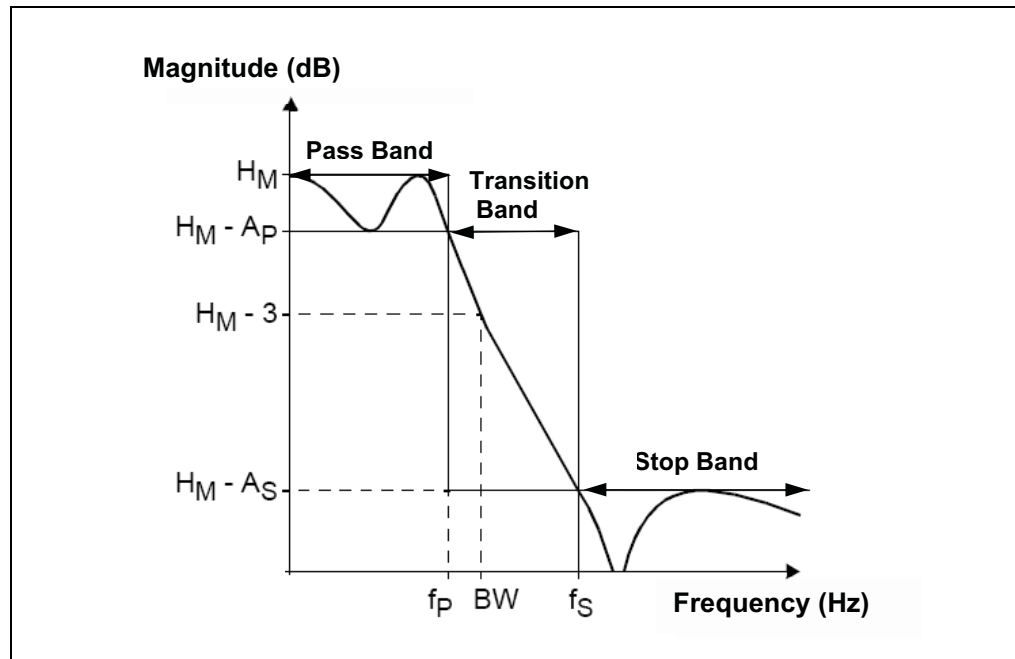
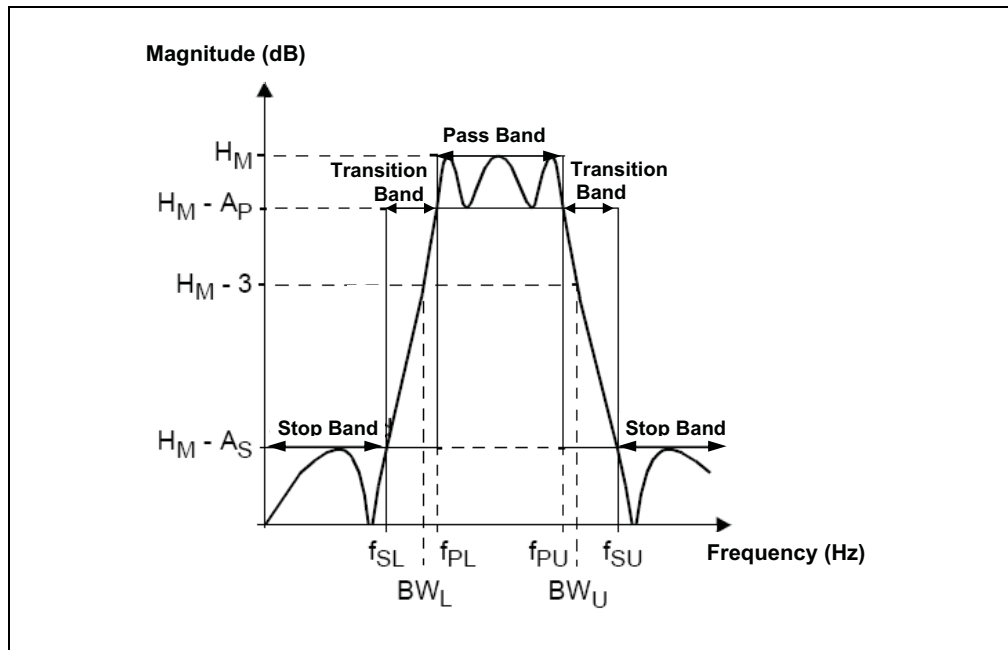

FIGURE 3-6: Filter Response and Parameter Definitions for Low-pass Selectivity.
FIGURE 3-8: Filter Response and Parameter Definitions for Band-pass Selectivity.
Figure 3-6 thru Figure 3-8 provide a simplified representation of the filter responses and specification parameters. For all selectivities, A_P and A_S represent the pass-band and stop-band attenuations. H_M represents the maximum transfer function magnitude. A detailed discussion is provided in **Appendix A. "Filter Magnitude Templates"**.
- For a Butterworth, Bessel and some Chebyshev approximations, the overall filter gain (G) is set as H_M as shown in Figure 3-6 through Figure 3-8. This setting is reflected in Figure 3-10 and Figure 3-11.
- For other Chebychev Approximation: Low-pass of even order, High-pass of even order and Band-pass of orders 4 and 8, the overall filter gain (G) is set as H_M - A_P as shown in Figure 3-6 through Figure 3-8. This setting is reflected in Figure 3-12 and Figure 3-13.
The Pass-band Attenuation is the change in magnitude of the frequencies in the Pass-band. The Pass-band attenuation for each selectivity (Low-pass, High-pass, Band-pass) is shown in Figure 3-6 thru Figure 3-8. The allowable range is -0.01 dB to -3 dB.